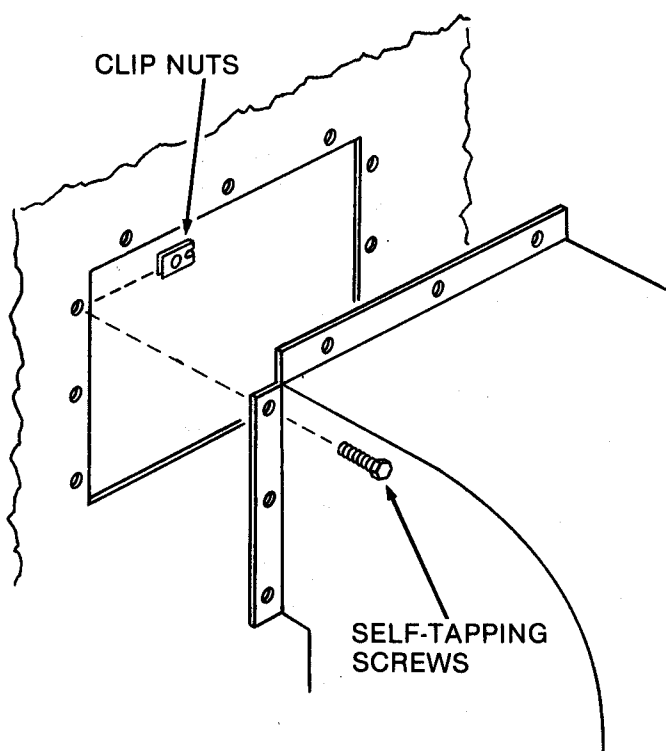

FIG. 15 - INLET ELBOW DETAIL
Step 14: The container inlet elbow is left off the container for shipping purposes. To install the elbow, push the nine clips into position over the holes drilled around the inlet opening - install with the flat side facing the outside surface of the container. Position the inlet elbow over the opening and secure with the nine #8 self tapping screws.(Fig. 15)